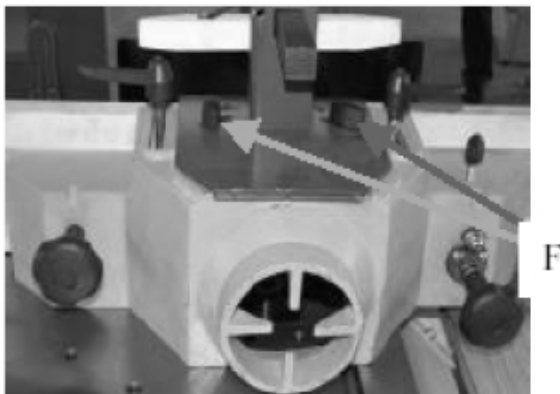

Fig. 27: Mounting the tools
Step 1: Loose the two locking knobs (Pos. F, Fig. 27) to open the cover.